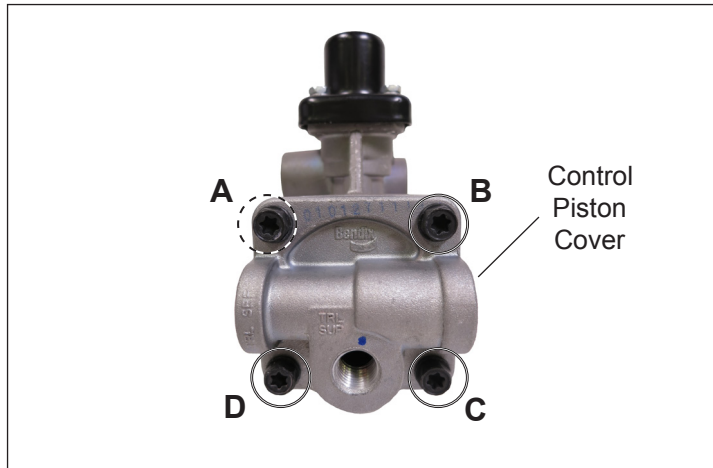

Figure 3 – Control Piston Cover Screws
2. It is necessary to rotate the fitting in the trailer supply port to complete this step. Rotate the fitting counterclockwise only (loosening) no more than 90°. *(Refer to Figure 3.)*
3. Rotate the cover back into position and install the three screws. Torque all four screws in a crossing pattern to 100 in-lbs. (A, C, D then B). (Refer to Figure 3.)